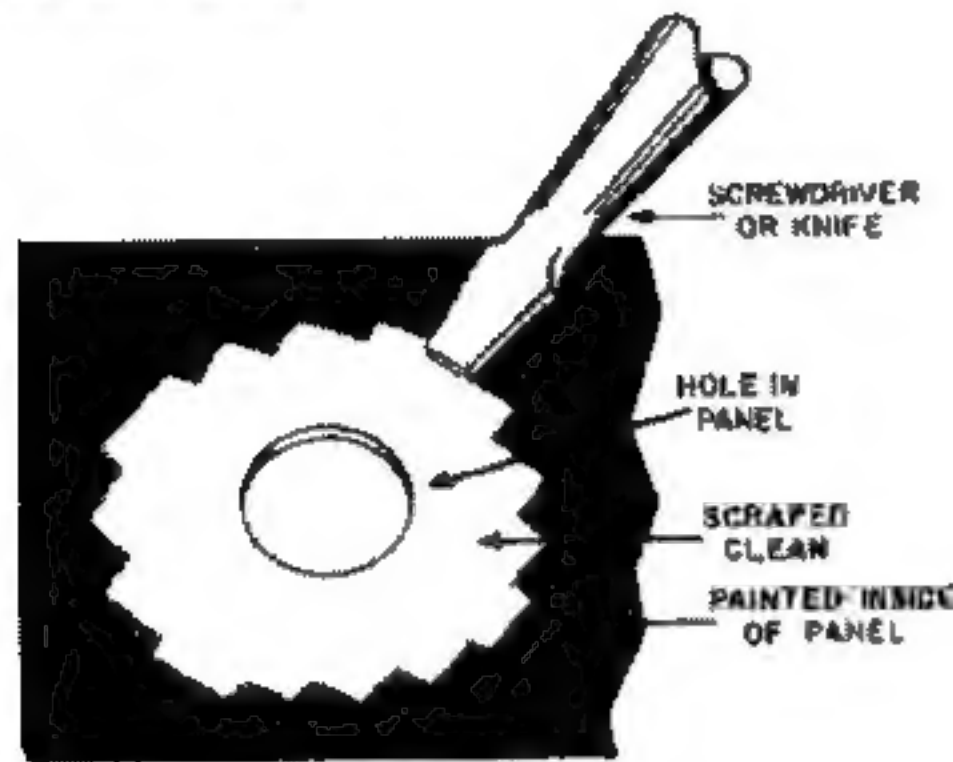

FIGURE 3. HOW TO SCRAPE PAINT
- ☐ On the inside of the chassis, scrape the paint from around the holes used to mount the INPUT and LOAD (J-1 & J-2) coaxial connectors, as shown in Figure 3.
- ☐ On the inside of the chassis, scrape the paint from around the hole marked GND. See Figure 3.